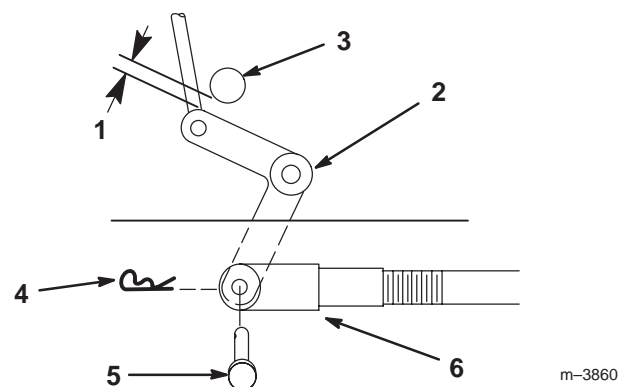
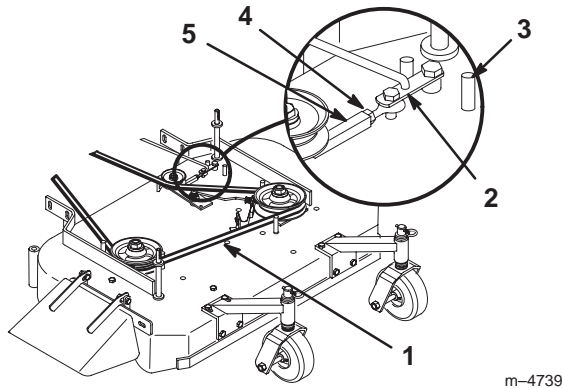

Figure 41
Figure 42
9. Check the clearance between the bell crank and the transmission output shaft (Fig. 41).
11. Rotate the clevis clockwise on the rod to increase the clearance; rotate it counterclockwise to decrease it (Fig. 41).
Note: If the assist arm does not contact the front stop on the mower deck (Fig. 42), adjust the clevis to bring the bell crank closer to the transmission output shaft (Fig. 41).
3. Loosen the locknut on the turnbuckle (Fig. 42).
4. Rotate the turnbuckle toward the rear of the mower to increase the tension on the belt. Rotate the turnbuckle toward the front of the mower to decrease the tension on the belt (Fig. 42).